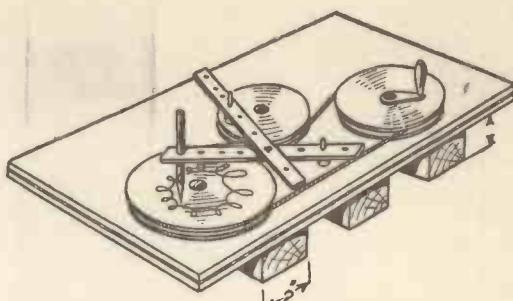
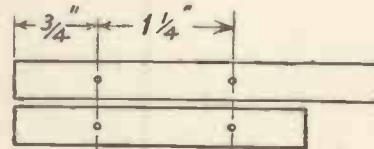

Fig. 1.—The finished Machine.
Fig. 2.—Method of Marking Supports for position of Spindles.
**Baseboard and Supports.**—A baseboard of plywood measuring 14 in. by 7 in. is required. As seen in Fig. 1, it is mounted on three supports, each measuring 7 in. by 2 in. by 1 in., the position of the supports underneath the baseboard being arranged so that the centres of the pulleys can be screwed through to these supports for strength (Fig. 2).